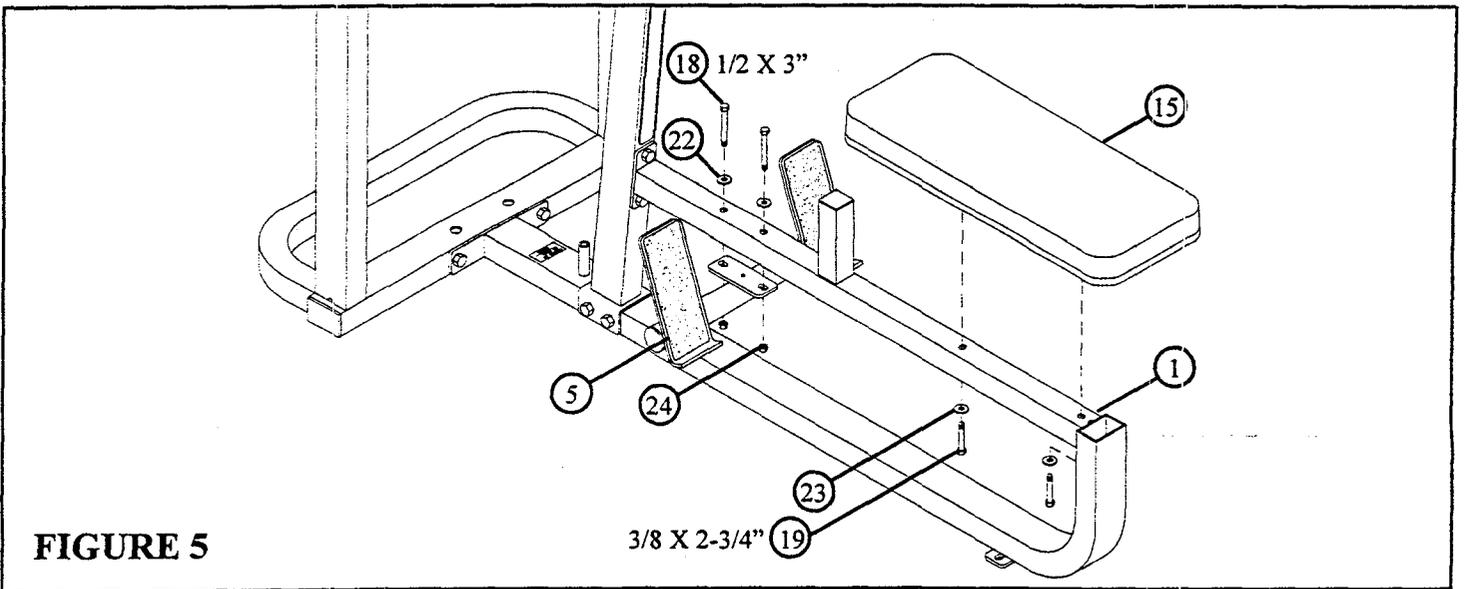

FIGURE 5
- A. Securely attach FOOT SUPPORT (5) to the BENCH FRAME (1) using two 1/2 X 3" BOLTS (18), two 1/2" WASHERS (22), and two 1/2" LOCK NUTS (24) as shown in FIGURE 5.
- B. Securely attach SEAT PAD (15) to the BENCH FRAME (1) using two 3/8 X 2-3/4" BOLTS (19) and two 3/8" WASHERS (23) as shown in FIGURE 5.